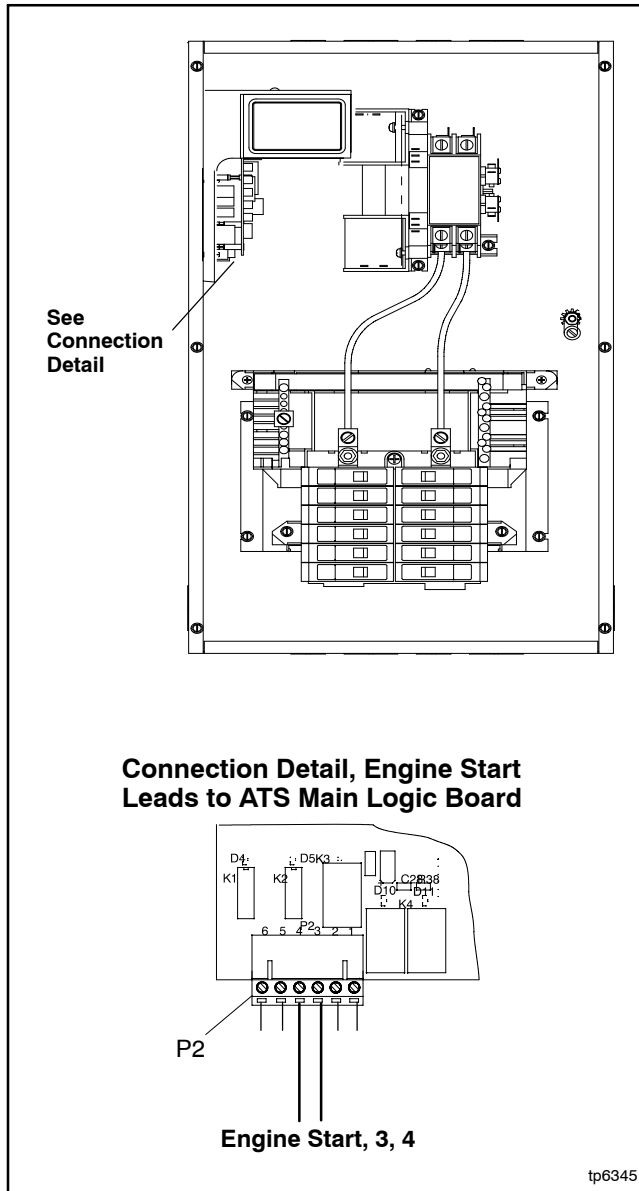

Figure 5-10 Engine Start Connection
See Figure 5-10 for the engine start connection to the ATS controller circuit board (connector P2).
4. Open the transfer switch enclosure and disconnect P2 from the ATS controller board. See Figure 5-10.